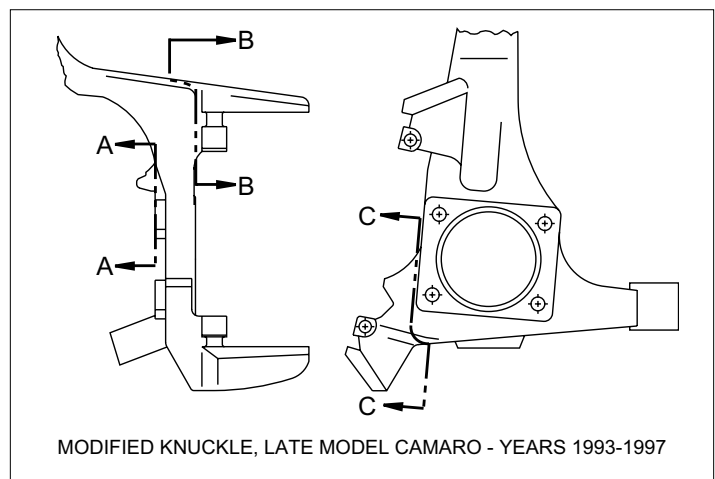

Figure 2. Knuckle Modifications
- Some modifications are required to the stock steering arm/spindle (Figure 2, page 3). This entails cutting the mounting ears and on some model years cutting away portions of the spindle support to facilitate the mounting of the Wilwood spindle bracket. It is recommended that these modifications be performed by a qualified machine shop.
- Make sure this is the correct kit to match the exact make and model year of the vehicle's spindle (i.e., brackets for a 1990 Camaro spindle will not fit a 1997 Camaro spindle). On some models of disc brake spindles there are "ears" where the OEM calipers were mounted and these "ears" interfere with the assembly of the Wilwood disc brake kit. See Figure 2 for spindle modification instructions.
- The following knuckle modifications should be performed by a qualified machinist. Refer to Figure 2. Only one view of the steering arm/knuckle is shown, but the modifications need to be performed on both sides.